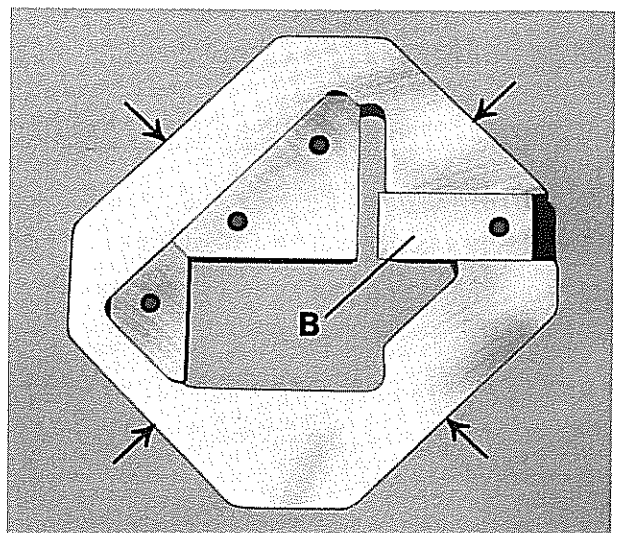

Fig. 36: PMG section blade, movable
- a) Prior to mounting the movable section blade "F", properly lubricate the outer guide sides (Cf. fig. 36, arrows).